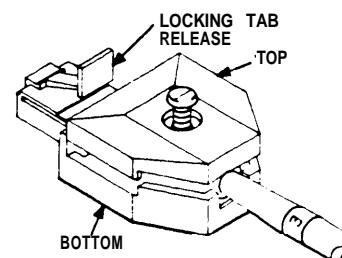

Figure 5
7. Place the bottom piece on a flat surface. Position the top piece on the bottom piece; insert the screw and tighten a few turns to hold the pieces together (see Figure 5).